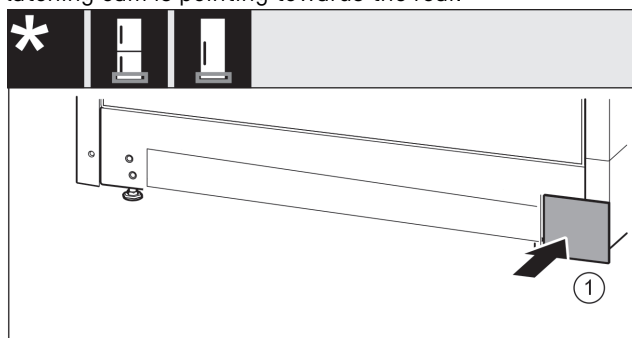

Fig. 23
- Re-attach the cover Fig. 23 (1) to the other side.